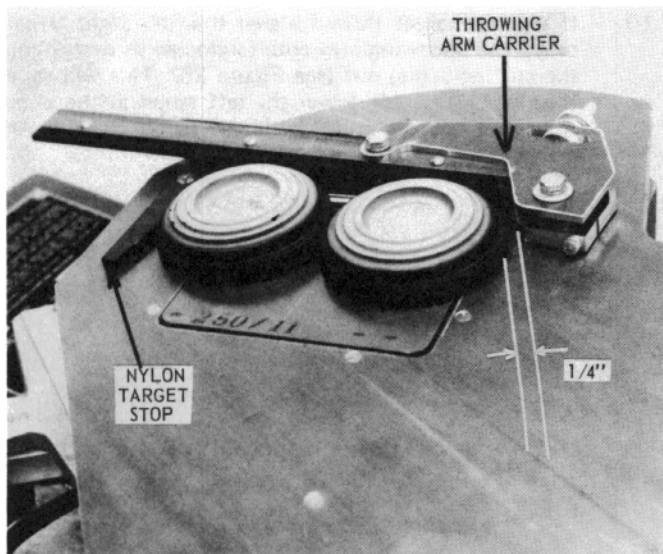

Figure 24 — Target Position Relative to Throwing Arm Carrier
- 7.7 Position the nylon target stop so that with the two targets against the throwing arm rail, there is approximately 1/4" clearance between the top target and the throwing arm carrier where it attaches to the shaft (see Figure 24).